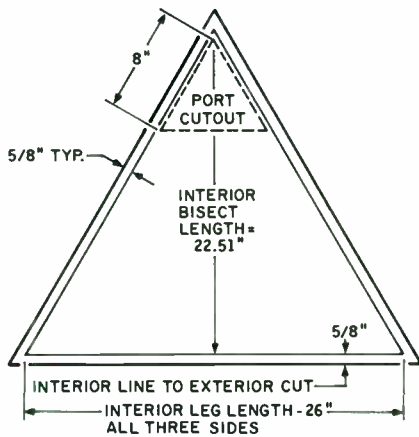
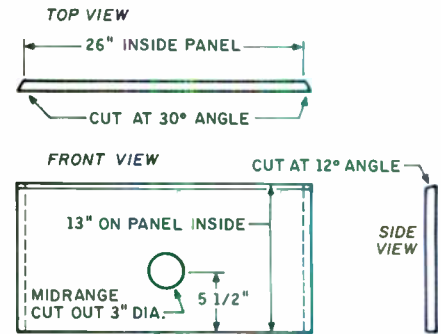

FIGURE 2: Cabinet bottom layout.
FIGURE 3: Front panel layout.
**BRACE YOURSELF.** Now for the actual construction. First, lay out the cabinet bottom (Fig. 2). Draw a line  $\frac{5}{8}$ " from the edge of your plywood and use it as the base of an equilateral triangle 26" on each leg. Draw two more lines  $\frac{5}{8}$ " outside the other two legs. (When attached, the front and sides will align on the 26" lines on the inside of the cabinet, leaving about  $\frac{1}{8}$ " of selvage outside the joints.) Cut out the cabinet bottom. Cut the front so the bottom is square, the top is at a 12° angle, and the sides are at 30°. Measured on the shorter face, the cabinet front will be 26-inches wide (Fig. 3).